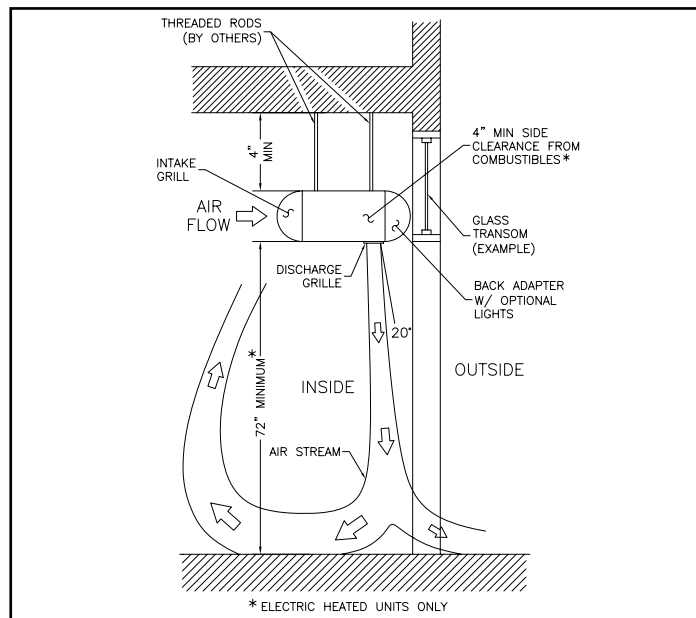

FIGURE 5 - Suspension With Back Adapter
- A. For top mounting using suspension rods, four (4) factory installed 5/16" threaded inserts are located on the top of the unit. **See Figure 5.**
- C. BACK DECORATIVE ADAPTOR – if the air curtain was ordered with a back adaptor, install the adaptor at this time. A maximum of 6" between the wall and intake grill is required. **See Figure 5.**